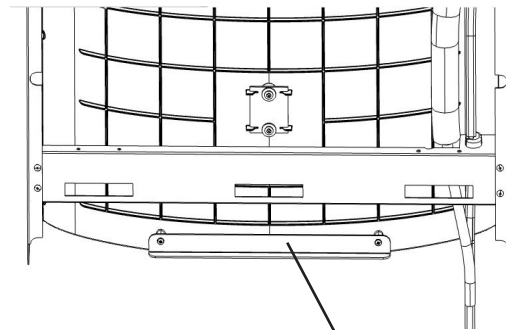

Fig. 11
- 6) **Install gasket** on bottom of bottle filler tower with gasket support bracket & (2) screws (See Fig 11).